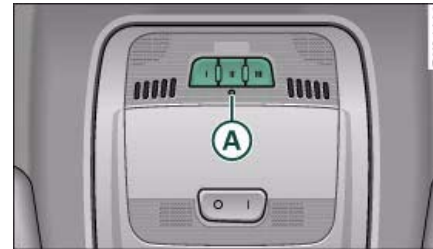

Fig. 160 Operating unit in headliner
⇒ *page 145*, fig. 160 until the indicator diode **(A)**
⇒ *page 145*, fig. 160 begins to flash after about
- Watch HomeLink diode **(A)** ⇒ *page 145*, fig. 160. If the diode starts flashing rapidly and turns into a constant light after about 2 seconds, this indicates that the device you wish to operate (e.g. a garage door opener) is equipped with a rolling code.
- Press the programmed HomeLink button ⇒ *page 145, fig. 160*. The device assigned to that button (e.g. garage door) will be activated.
The HomeLink indicator diode ⇒ *page 145, fig. 160* will light up when you press the button. ■
- Press and hold down the two outer buttons until the indicator diode starts to flash ⇒ *page 145, fig. 160*.
- Press and hold down the selected button until the indicator diode ⇒ *page 145*, fig. 160 starts flashing slowly.